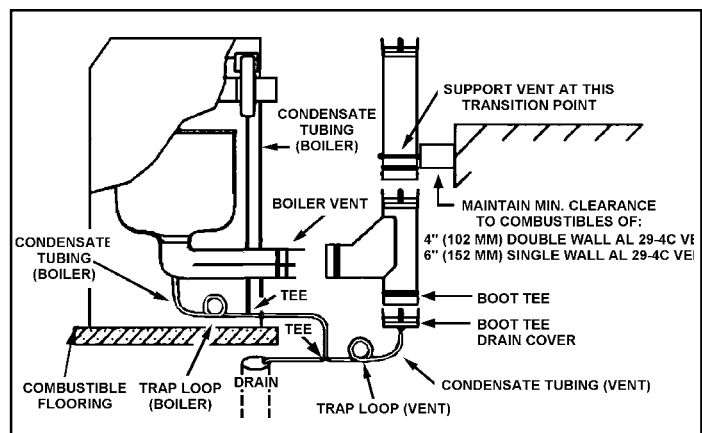
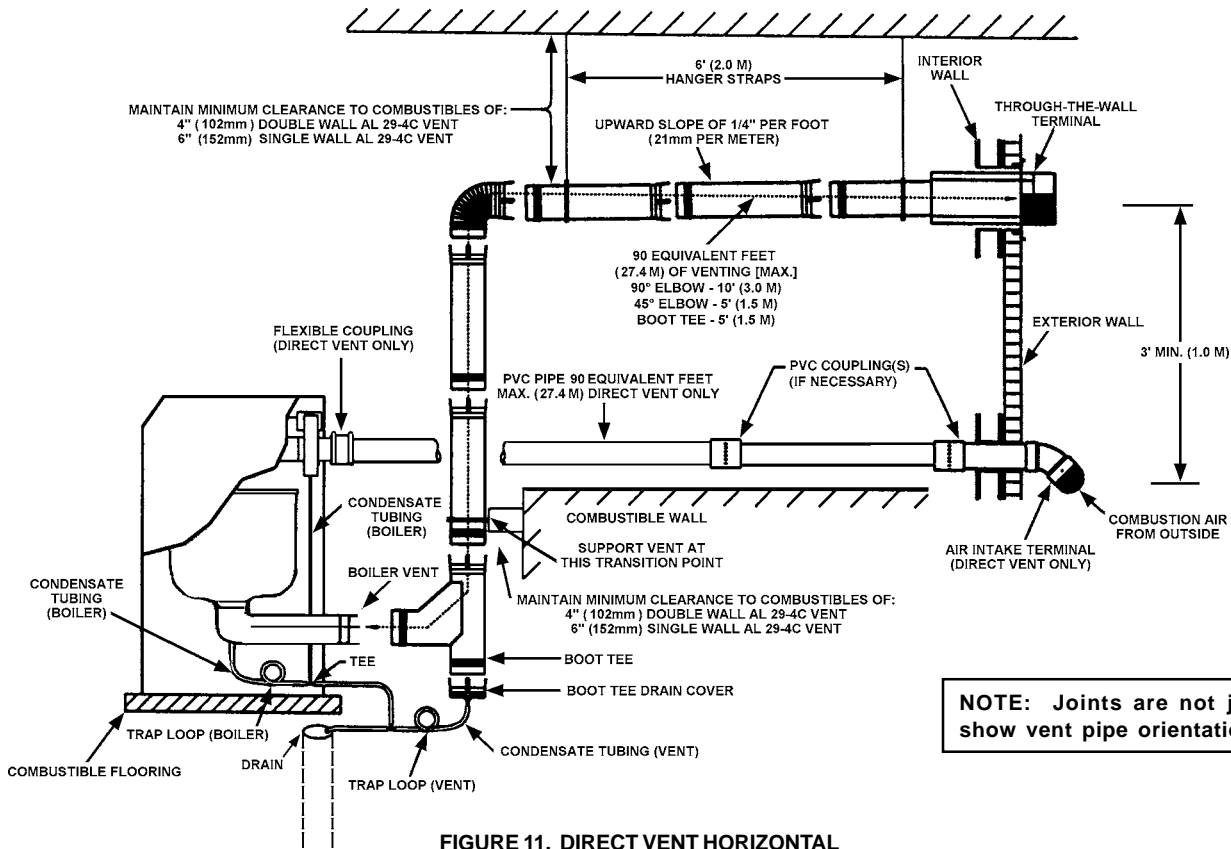

FIGURE 10.
FIGURE 11. DIRECT VENT HORIZONTAL
3. **Direct Vent** — using TWT to exhaust flue products and PVC piping to bring combustion air to the boiler from the outside, see figures 11 and 11C.
At the outlet of the boiler vent, see figure 10, the AL 29-4C® Vent Boot-Tee and Boot-Tee Drain Cover must be used as the transition from the horizontal to vertical run. This is where the bottom most support bracket should be located.
1. Attach the Boot Tee Drain Cover to the appropriate leg of the Boot-Tee, see figure 10.
2. A trap loop must be formed into the drain tube simply by looping the tube to a minimum 3 inch (76 mm) diameter and secure the loop with a cable tie, see figure 10.
4. Connect the Boot-Tee and Drain Tee assembly to the boiler vent connector, see figure 10.
The support bracket (supplied in the Vertical Support Kit) is to be securely fastened to a solid vertical member of the building using the appropriate fasteners; i.e., wood screws for wood framing, machine or tapping screws for structural steel or masonry anchors for solid masonry. The bracket should be located so that it will not interfere with any joints of the venting system. The bottom most support bracket should be located directly above the first transition from horizontal to vertical, see Figure 10. Refer to figures 11, 11A, 11B and 11C.
- FOR EXHAUST AND AIR INTAKE PIPE INSTALLATIONS (CLEARANCES, SUPPORT, ETC.) REFER TO FIGURES 11 AND 11A.